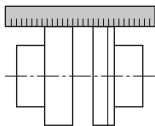

Fig. 12: Checking the radial alignment with a ruler
- Alternatively, the radial coupling alignment can also be checked with a ruler (see Fig. 12).